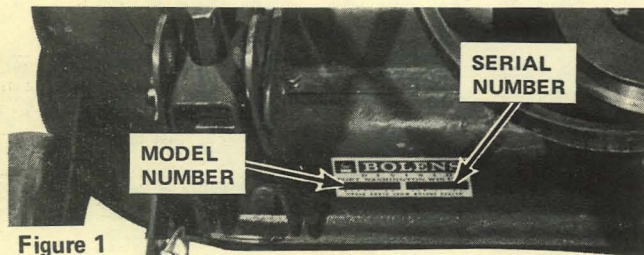

Figure 1
1. Count and check parts against Figure 1.